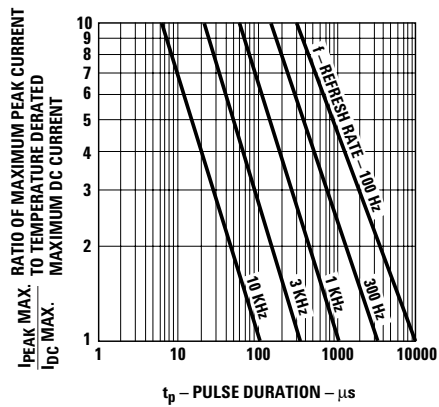

Figure 6. Maximum tolerable peak current vs. peak duration ( $I_{PEAK \text{ MAX.}}$  determined from temperature derated  $I_{DC \text{ MAX.}}$ ).
2. Refer to Figure 6 to establish pulsed operating conditions.